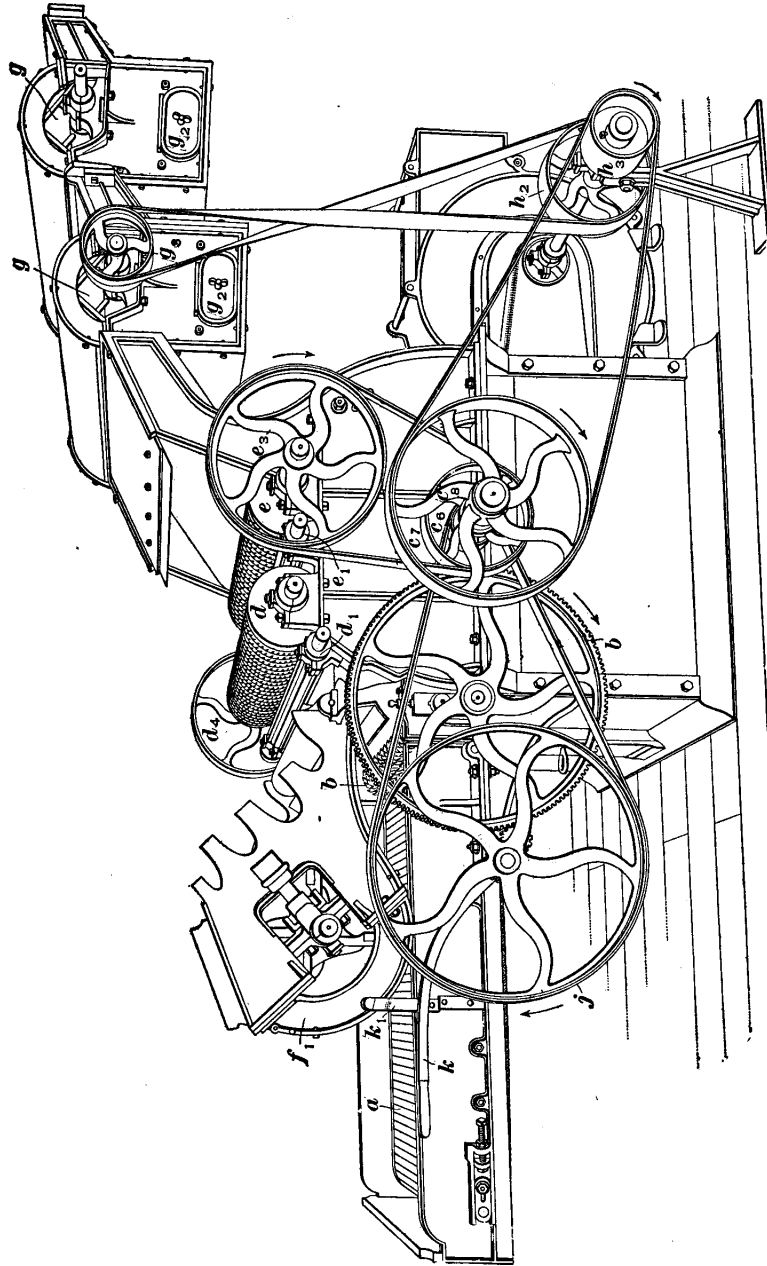
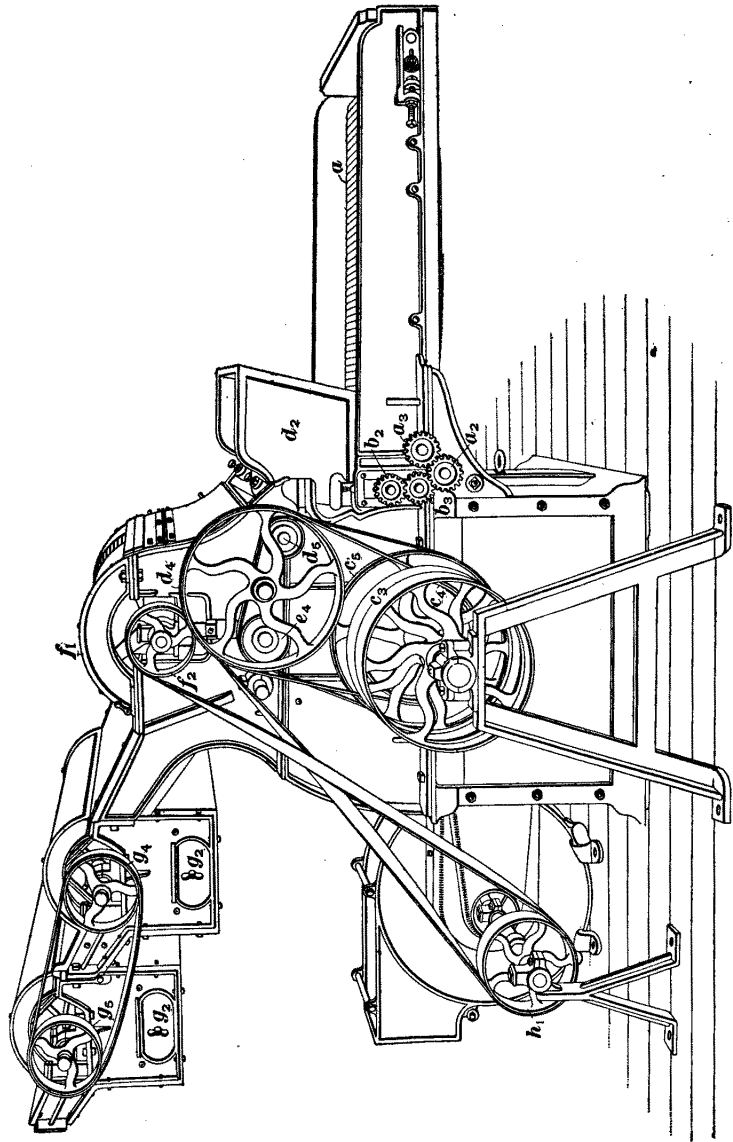
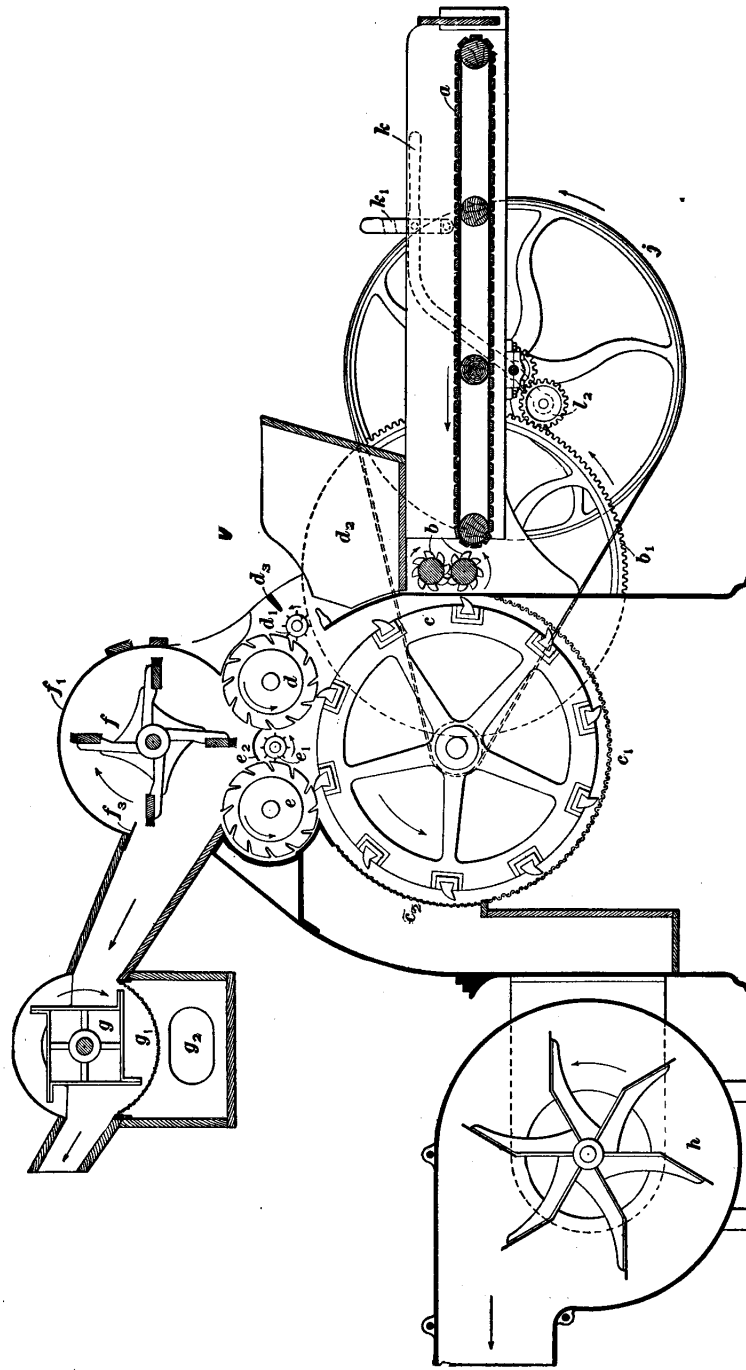
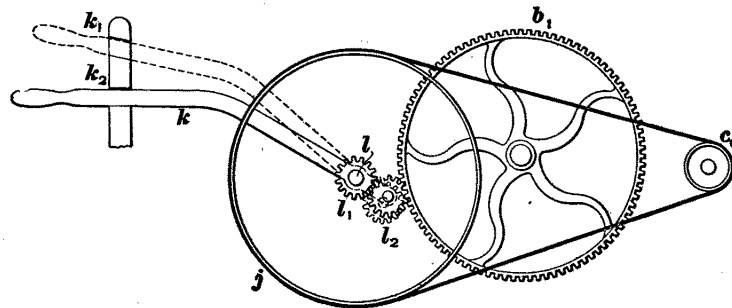

FIG. 1
FIG. 2
FIG. 3
FIG. 4
3. A very effective machine for removing the burrs from wool, known as the improved **Parkhurst burr picker**, is shown in Figs. 1 and 2; Fig. 3 illustrates the working parts. The construction and operation of this machine are such as to have the greatest cleaning effect on the wool with the least possible damage to the fiber. The machine is of solid construction, the framework being made of iron, with the exception of a few minor parts, which, as shown in Fig. 3, are constructed of wood. The greatest care is taken to have all working parts firmly adjusted and free running, since the high speed necessary in a burr picker, together with the large number of parts in motion, render it a machine requiring a considerable amount of power for driving purposes.
6. The beater is a square, box-like drum built up from a central shaft and having four blades attached; its object is to beat out such loose material as dust, shives, etc., which will then fall through the screen *g*, placed under the beater. Some machines have two beaters, as shown in Figs. 1 and 2; others only one, as shown at *g*, Fig. 3; while sometimes they are entirely dispensed with. The beaters are placed at the spout, where the wool leaves the machine, and, as the stock at this point is opened out nicely, they easily remove a large amount of finely divided dirt that has escaped the previous operations and that would otherwise pass through the machine with the wool.
7. The top of this machine is so arranged that it swings back, carrying the brush with it. This is a great advantage in cleaning the machine, as it exposes the burr cylinders and guards so that they may be easily cleaned and made ready for the next lot of wool. Fig. 1 shows the bonnet  $f_1$  laid back on the feed-apron and the burr cylinders exposed. The machine is provided with hinged doors, located under the feed-apron, for cleaning the space under the picking cylinder, which can be quickly cleaned between lots, as the doors can be opened without removing screws or bolts. Sliding brushes are placed under the screens beneath the beaters for the purpose of cleaning them. There is also a brush for cleaning the screen at the rear of the picker cylinder, which if clogged hinders the draft of the blower. This screen sometimes becomes coated with a gummy substance; if greasy wool is used it must then be taken out and washed with soda, potash, or any compound that will cut the grease. There are also small handholes  $g_2$  for cleaning the spaces under the beater screens and for removing the fine dirt and shives that fall through them.
8. **Driving.**—The driving of the various parts of the burr picker will be readily understood by the following description in connection with Figs. 1 and 2: The main shaft of the machine is fitted with tight and loose driving pulleys  $c_3$  and all working parts are belted from the main shaft. Only one belt is required to drive the machine, except on the large size (48-inch width) where a double drive is used, that is, a tight pulley on each side of the machine driven from a countershaft on which tight and loose pulleys are arranged. The front burr cylinder is driven by a 12-inch pulley  $c_4$  on the picker shaft, which drives a 16-inch pulley  $d_4$  on the front burr-cylinder shaft. This drive is shown in Fig. 2. The rear burr cylinder is driven on the other side of the machine, as shown in Fig. 1, by a  $9\frac{1}{2}$ -inch pulley  $c_5$  on the main shaft, which drives a 16-inch pulley  $e_5$ .
on the shaft of the rear burr cylinder. The blower is driven by a 17-inch pulley  $c_s$  on the main shaft, which drives a 6-inch pulley  $h_s$  on the blower shaft, also shown in Fig. 1.
The two burr guards are driven by a 17-inch pulley  $c_s$  on the main shaft, which drives two pulleys  $e_s, d_s$  on the burr-guard shafts, the pulley on the front burr-guard shaft being 4 inches in diameter and the pulley on the rear burr-guard shaft being 5 inches in diameter; these pulleys are shown in Fig. 2. A driving pulley  $h_s$ , 10 inches in diameter, on the blower shaft drives an 8-inch pulley  $g_s$  on the first beater shaft with a crossed belt, as shown in Fig. 1, and on the opposite side of the machine the two beaters are connected by a belt and 8-inch pulleys  $g_s, g_s$ , as shown in Fig. 2. A 10-inch
pulley  $h_s$  on the blower shaft drives a 7-inch pulley  $f_s$  on the shaft of the brush with a crossed belt. The driving of the feed-rolls is shown in Fig. 1, and is as follows: A  $4\frac{1}{2}$ -inch pulley  $c_s$  on the picker-cylinder shaft drives a pulley  $j$ , 24 inches in diameter, on a stud  $l$ , see Fig. 4. A pinion gear  $l_1$  with 15 teeth, fastened to the pulley  $j$ , drives an intermediate gear  $l_2$ , which in turn meshes with a 150-tooth gear  $b_1$  fastened to the bottom feed-roll shaft. The top and bottom feed-rolls are coupled together with 15-tooth gears  $b_s$  and  $b_s$  on the opposite side of the machine, as shown in Fig. 2, the gear on the bottom feed-roll shaft also driving a 17-tooth intermediate  $a_s$ , which drives a 17-tooth gear  $a_s$  on the front apron-roll shaft, thus driving the feed-apron.
**9. Device for Stopping Feed.**—There is a device on this machine for stopping the feed-rolls and apron without stopping the whole machine; this allows the operator to stop the delivery of wool to the picking cylinder immediately when anything wrong is seen with the working of the machine. The mechanism is simple and effective. A lever marked *k*, Fig. 4, is pivoted on the stud *l*. The pinion gear *l*1 is loose on this stud, as is also the pulley *j*. The gear *l*2 is loose on a stud fixed at the extremity of the lever *k*. Thus, when the lever is raised, as shown by the dotted lines, and held in that position by the slot at *k*1, the gear *l*2 will be withdrawn from contact with the gear *b*1; this stops all motion of the feed-rolls and apron. The slots *k*2, *k*1 are cut in a piece of steel bolted to the side of the feed-trough and hold the lever firm when the pinion is in or out of contact with the gear *b*1.
**10. Operation.**—In operation, the stock is spread evenly on the feed-apron *a*, Fig. 3, either by hand or by an automatic or self-feed, and is carried forwards to the pair of cockspur feed-rolls *b*. The wool is held by the feed-rolls and is combed and opened out by the rotating picking cylinder *c*, which revolves upwards past the feed-rolls. The picking cylinder carries the wool to the burr cylinders *d*, *e*, and the stock is deposited in the spaces between the rows of teeth on the burr cylinders, while the burrs lie on the surface and are knocked off into the burr box *d*2 by the burr guards. The passage of the material from the feed-rolls to the picking cylinder and from the picking cylinder to the burr cylinders, the cylinders being in rapid rotation, results in the wool being beaten, drawn, and opened, the burrs gradually being thrown to the outside and ultimately hanging loosely from the burr cylinders from which they are easily knocked by the burr guards.
**13.** In Fig. 3, a steel straightedge, or knife, is placed at *f*, to prevent the stock from winding around the brush and also to keep the bristles of the brush clean. At *d*2 a similar knife is placed to prevent the burrs that are knocked out by the burr guard *d*1 from flying back into the burr cylinder *d*. A guard *e*2 is placed over the burr guard *e*1 in order to prevent the wool removed from the burr cylinder *d* by the rotating brush from falling on the burr guard *e*1 and being thrown on the picking cylinder *c*.